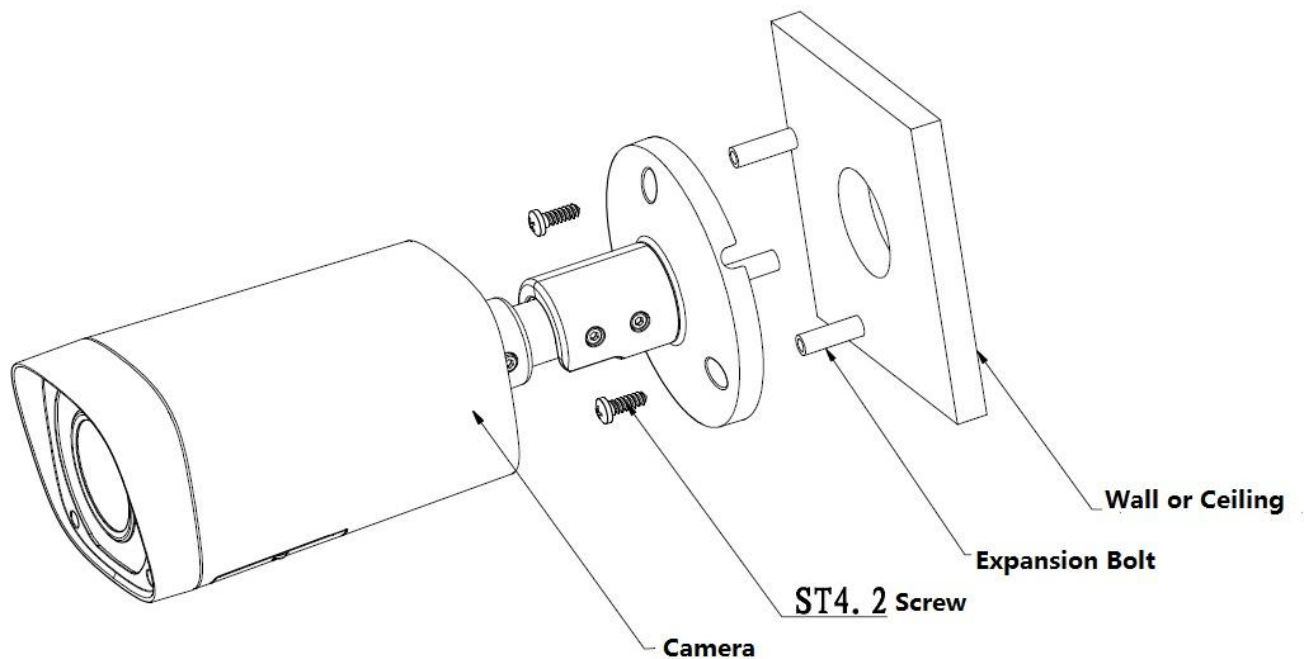

Figure 3-2
Please refer to the steps listed below for installation information, see Figure 3-2 and 3-3.
- Please install the expansion bolt if you want to install in the cement wall (Please make sure the installation holes of the expansion bolts are the same with the bracket.) Then you can install the bracket. See Figure 3-2.